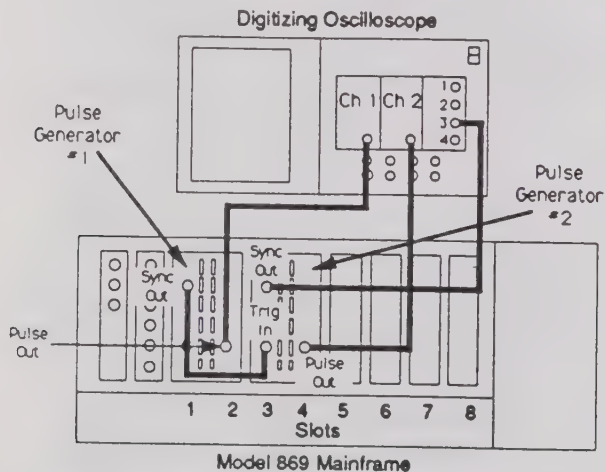

Figure 2-18. System Trigger Input/Output Hookup
1. Interconnect the required test equipment as shown in figure 2-18.